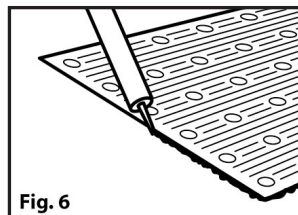

Fig. 6
7. Following panel installation, caulk around the perimeter of the panel with NP1 or equivalent. Blend and taper the caulking smooth around the perimeter in a cove profile between tile and adjacent concrete substrate. (Figure 6)